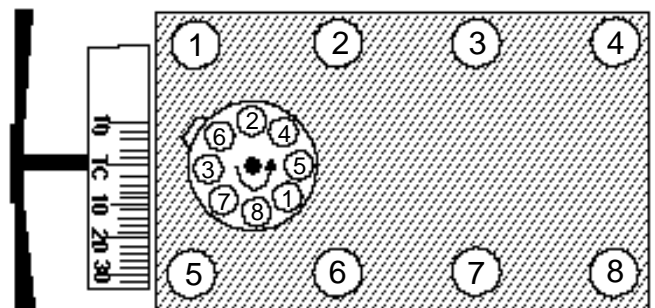

Figure 2—390-428 c.i.d. Ford
- **FIRING ORDER AND CYLINDER NUMBERING—**For firing order and cylinder numbering, see Figure 2.